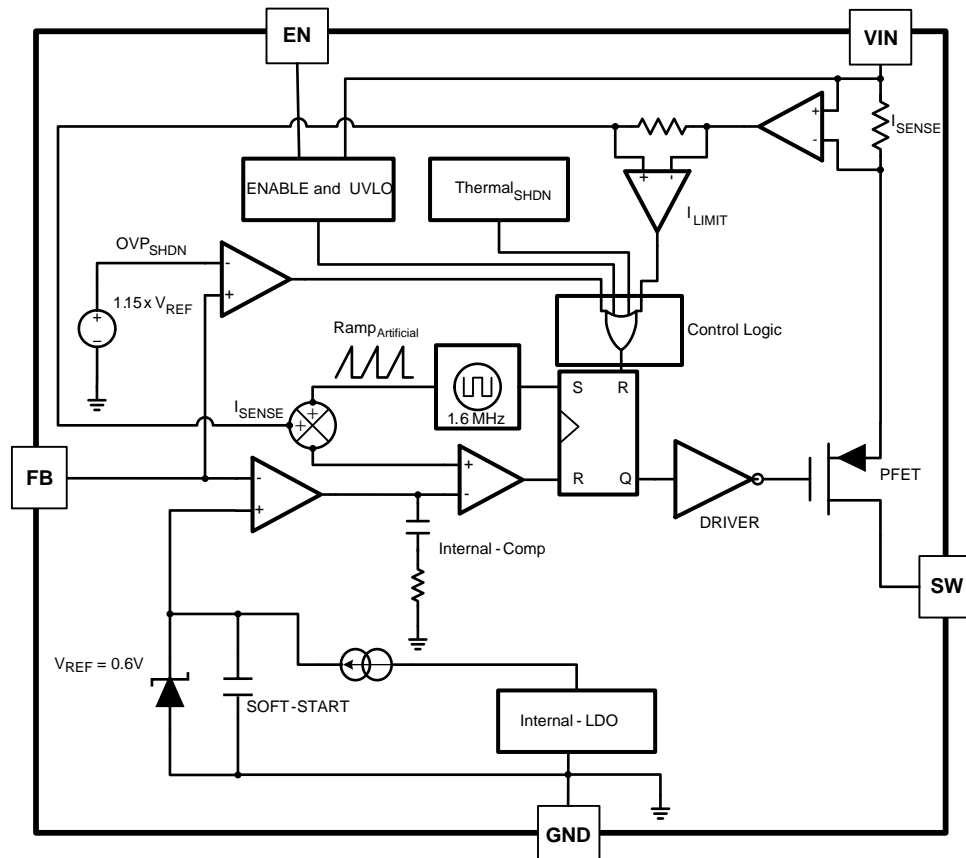
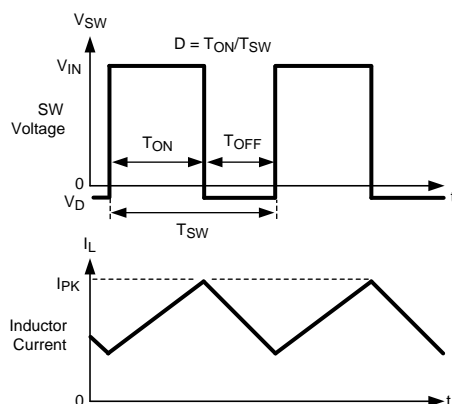

Figure 20.
Figure 21. Typical Waveforms
The following operating description of the LMR10510 will refer to the Simplified Block Diagram (Figure 20) and to the waveforms in Figure 21. The LMR10510 supplies a regulated output voltage by switching the internal PMOS control switch at constant frequency and variable duty cycle. A switching cycle begins at the falling edge of the reset pulse generated by the internal oscillator. When this pulse goes low, the output control logic turns on the internal PMOS control switch. During this on-time, the SW pin voltage (V_{SW}) swings up to approximately V_{IN} , and the inductor current (I_L) increases with a linear slope. I_L is measured by the current sense amplifier, which generates an output proportional to the switch current. The sense signal is summed with the regulator's corrective ramp and compared to the error amplifier's output, which is proportional to the difference between the feedback voltage and V_{REF} . When the PWM comparator output goes high, the output switch turns off until the next switching cycle begins. During the switch off-time, inductor current discharges through the Schottky catch diode, which forces the SW pin to swing below ground by the forward voltage (V_D) of the Schottky catch diode. The regulator loop adjusts the duty cycle (D) to maintain a constant output voltage.